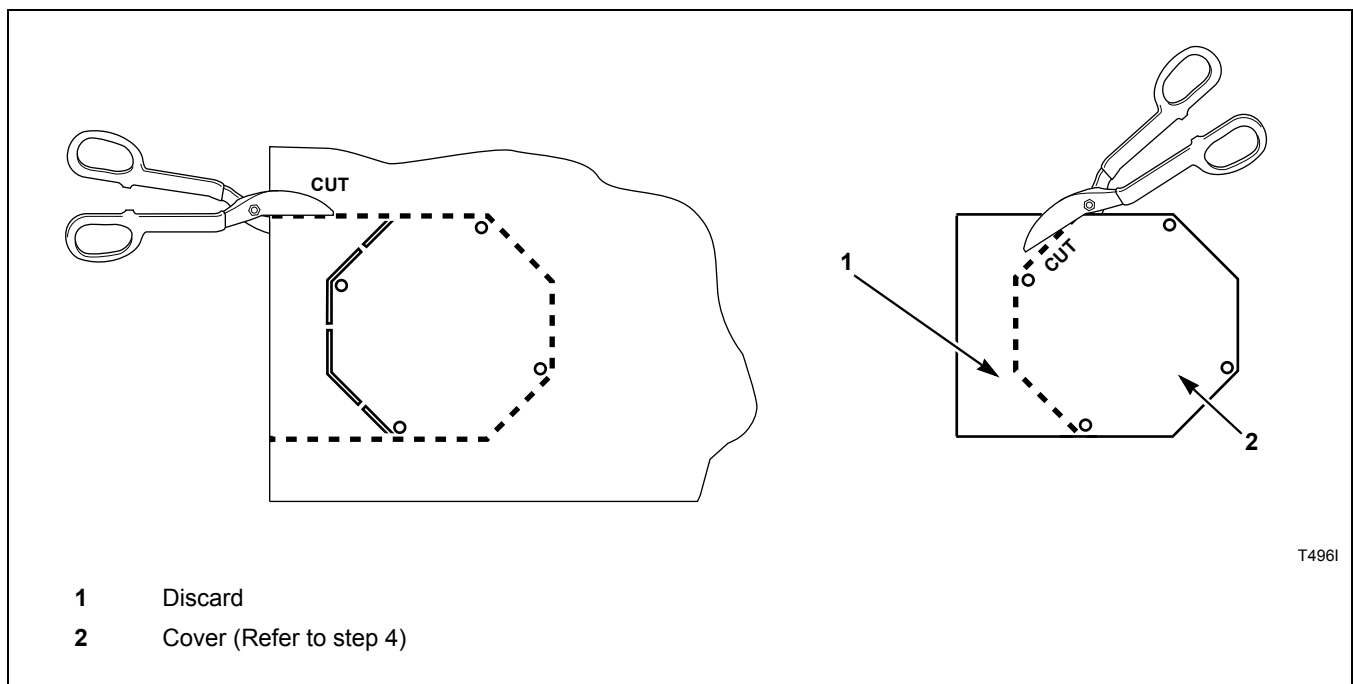

Figure 5
3. Cut out shape from belt guard cover. Refer to *Figure 5*.